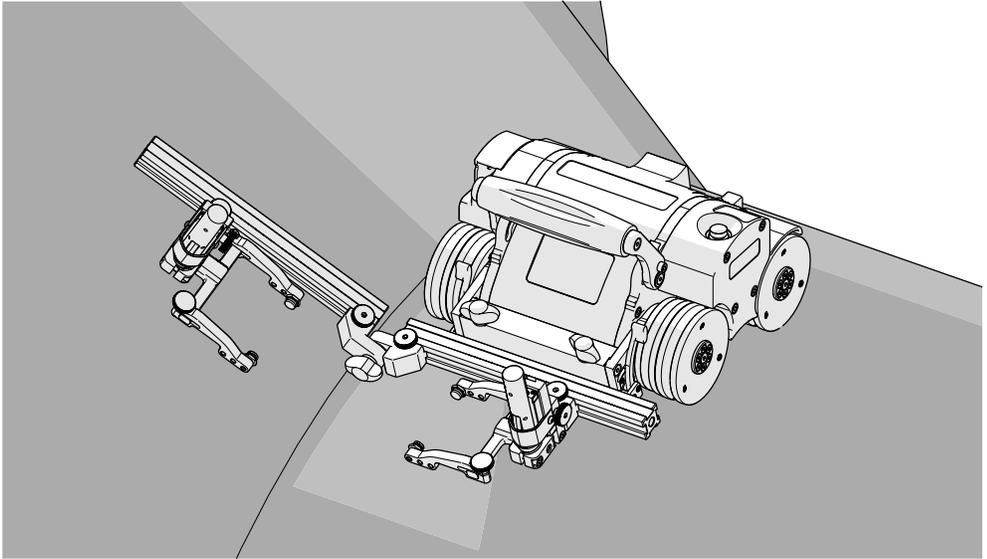

Fig. 192 - Align frame bar with flange scan surface
4. Loosen the pivot wing knob and align the frame bar parallel with the scan surface (*Fig. 192*).